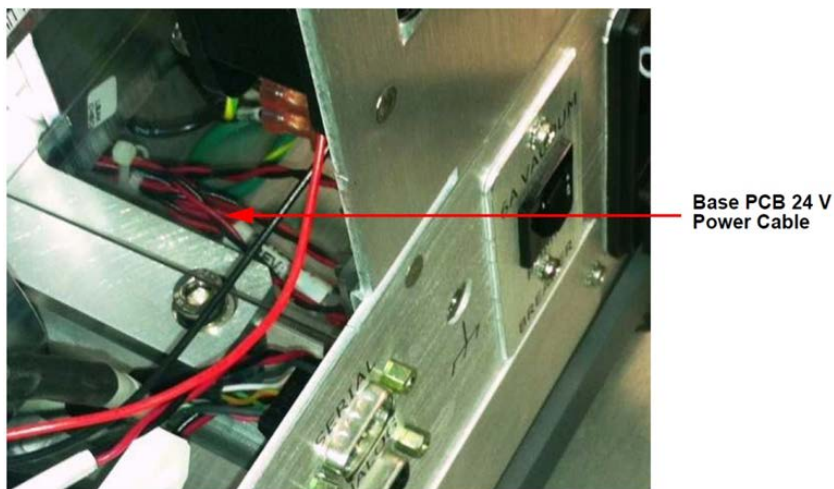

Figure 15 24 V Power Cable
- 11 Unfurl the black/red wire (P1-RF) with the 24 V three-pin connector and the ground lug (Figure 15: 24 V Power Cable), which is tie rapped at the base of the leak detector, and: